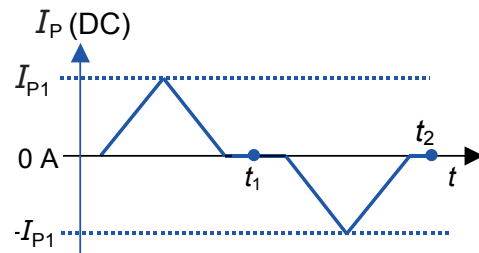

Figure 11: Current cycle used to measure magnetic and electrical offset (transducer supplied)
- or in a known magnetization state, like in the current cycle shown in figure 11.